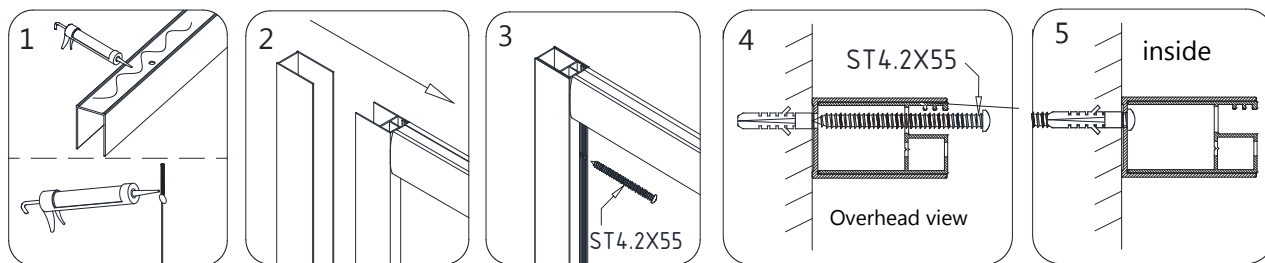

Fig 10
8. Apply silicone caulk to the rear surface of the **Wall Profiles (#02)** and around the holes on the wall. Also apply silicone caulk under the **Bottom Guide Rail (#03)**. Place the entire shower assembly back into the designated position and secure it to the walls using the **Pan Head Screws ST4.2×55 (#09)**. The screws will pass through the larger holes in the **Glass Profile (#01)** and secure the **Wall Profiles (#02)** to each wall. **(Fig 10)**